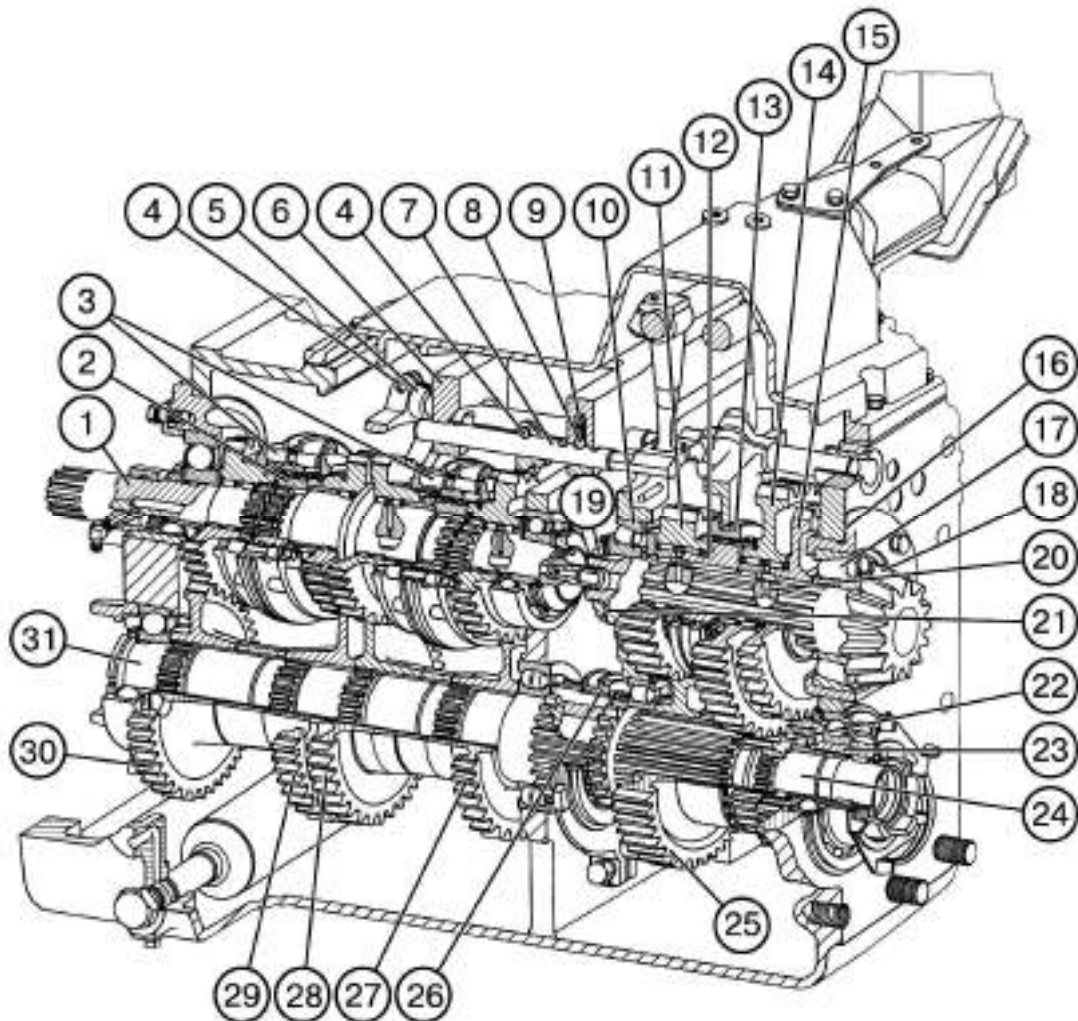
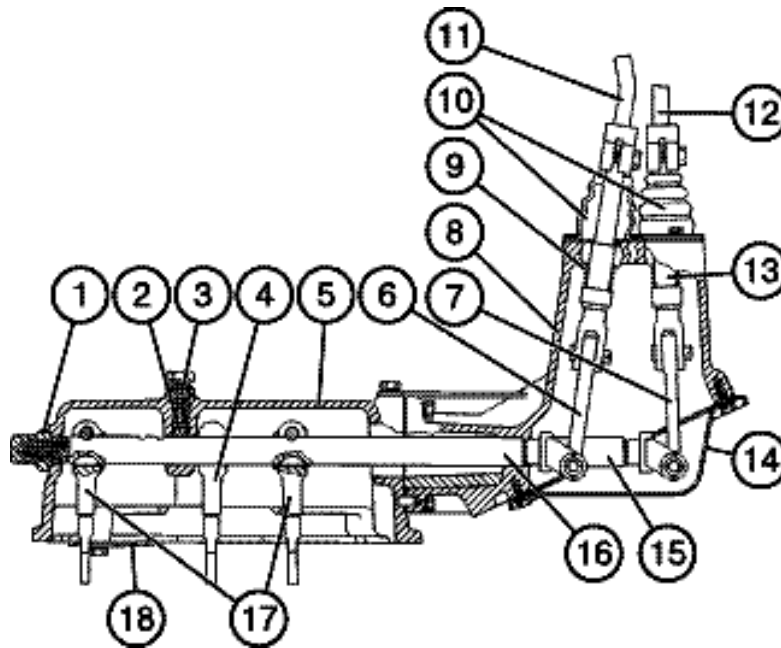

Fig.E-12 GEARBOX
Fig. E-13. Synchronized Gearbox Control
The GB control mechanism (Fig. E-13) comprises the gear-shift and speed-range change-over mechanisms. The gear-shift mechanism is installed in the fork member (6) (Fig. E-12) and in the casings (5) and (8) (Fig. E-13). The engagement is achieved through the lever (7), shaft (15) and arm (4). The dogs (5) and (7) are installed in the fork member (6) (Fig. E-12) with the forks (4) fixed thereto. To exclude simultaneous engagement of two speeds, the locking balls are located between the dogs (5) and (7). To hold the forks (4) in the neutral and engaged posi-